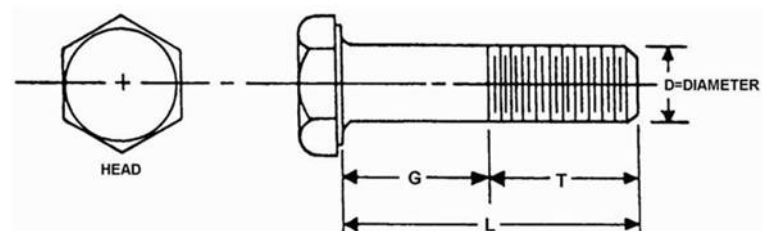

Figure 4-1. Bolt configuration.
Aircraft bolts are made from cadmium or zinc-plated, corrosion-resistant steel (CRES); unplated CRES; and anodized aluminum alloy. The configuration of a bolt (fig. 4-1) includes grip length (G), bolt length (L), thread length (T), and diameter (D).
The following table provides descriptions for each bolt dimensional feature mentioned in the preceding paragraph, and displayed in figure 4-1.